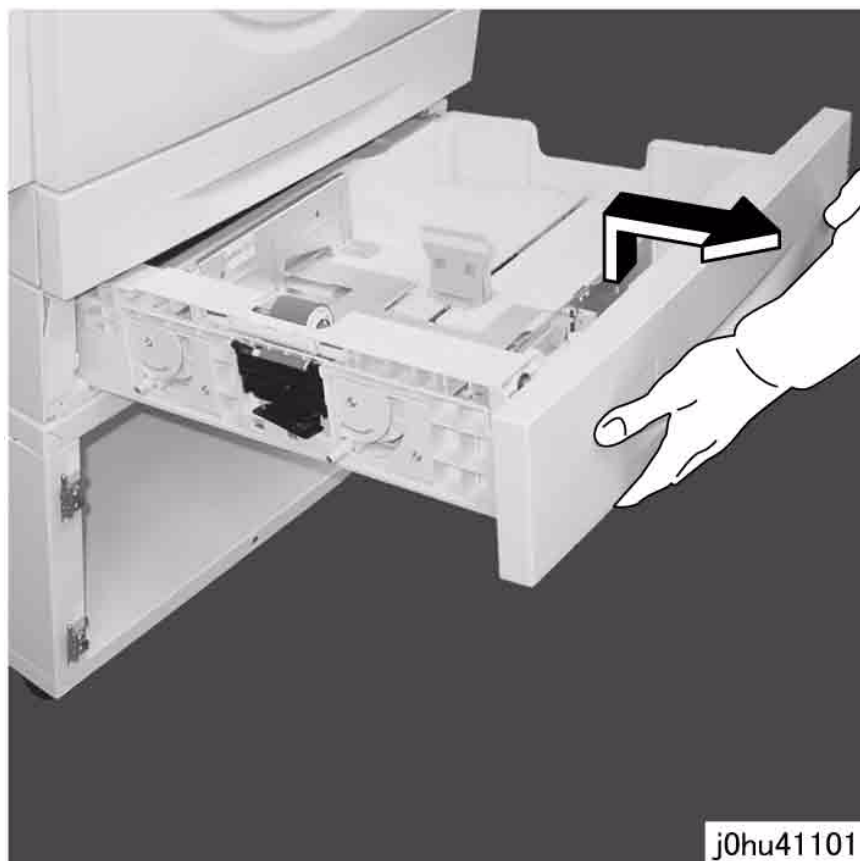

Figure 1 Remove Tray 2
3. Lift the front side of Tray 2 and remove the tray (Figure 1).